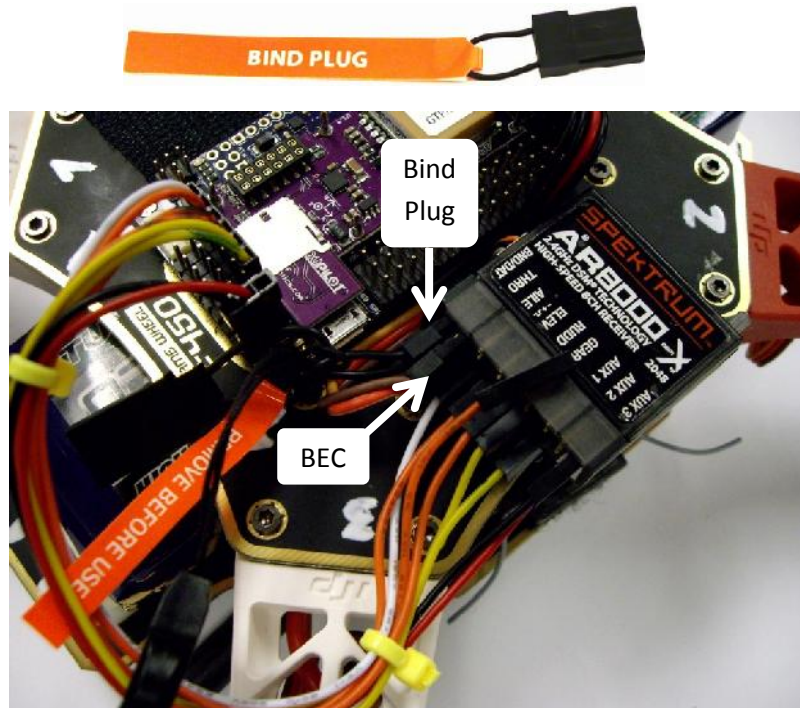

Figure 16 – How to setup up the AR8000 radio receiver for binding
- Plug the bind plug into the BND/BAT port, see Figure 16, of the radio receiver.
- Plug the BEC into the THRO port, see Figure 16 of the radio receiver.